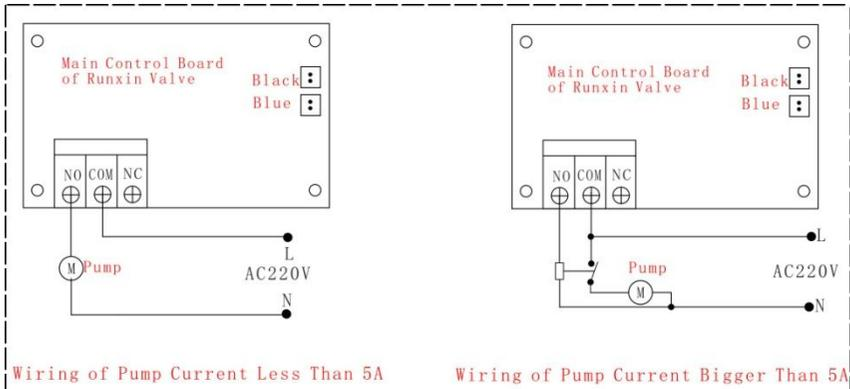

Figure 3-6
**Instruction:** If inlet water pressure is less than 0.15MPa, which makes backwash or brine difficult, a booster pump is suggested to be installed on inlet. Control mode b-01. When system in regeneration cycle, booster pump is open, the wiring refers to Figure 3-6. If the booster pump current is bigger than 5A, system need to install a contactor, the wiring refers to Figure3-6.